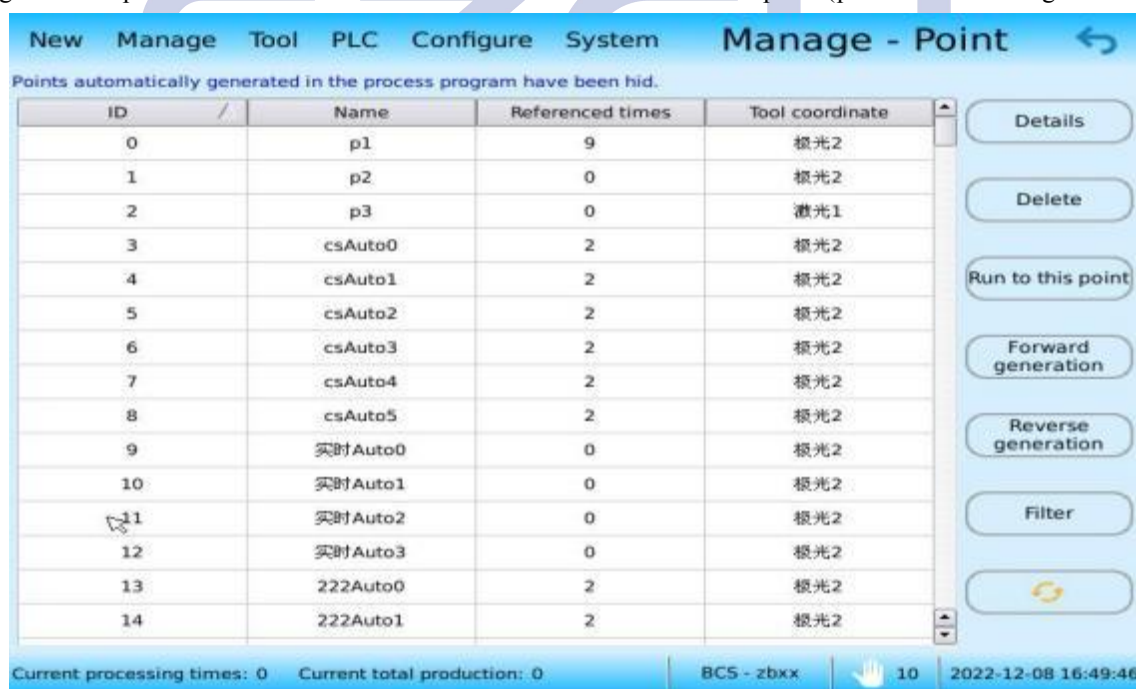

Figure 13.3 Creating Calibration Points
(1) Align the end point of the tool with the calibration rod, and create a new point (ID167 point in Figure 13.3) on a straight line (along the Z-axis direction of the tool coordinate system), as shown in Figure 13.2.
(2) Move the slide rail more than 10° in the positive direction (the more the better), and then align the end point of the robot tool with the calibration bar to create a second point (point ID168 in Figure 13.3).
(3) Continue to move the slide rail more than 10° in the positive direction (the more the better), and then align the end point of the robot with the calibration bar to create a third point (point ID 169 in Figure 13.3).